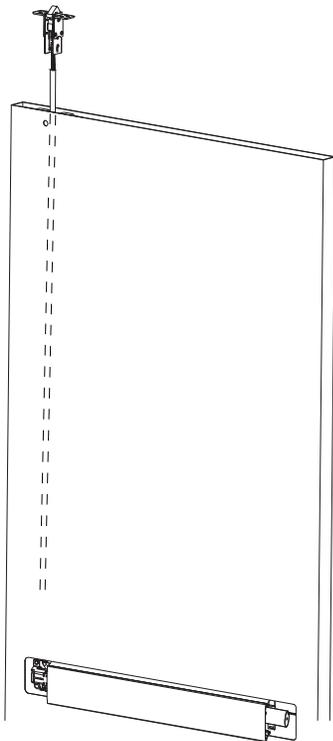
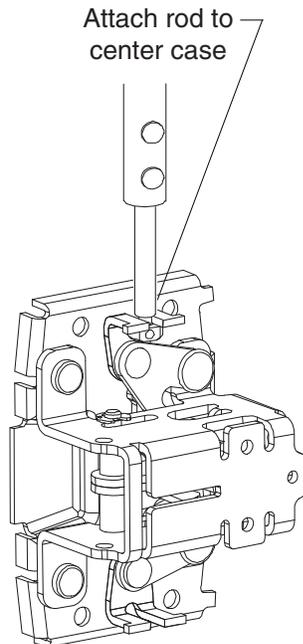

Figure 6-3
Figure 6-4
- Slide rod and latch into prep at door top (Figure 6-3), and attach rod to center case (Figure 6-4).